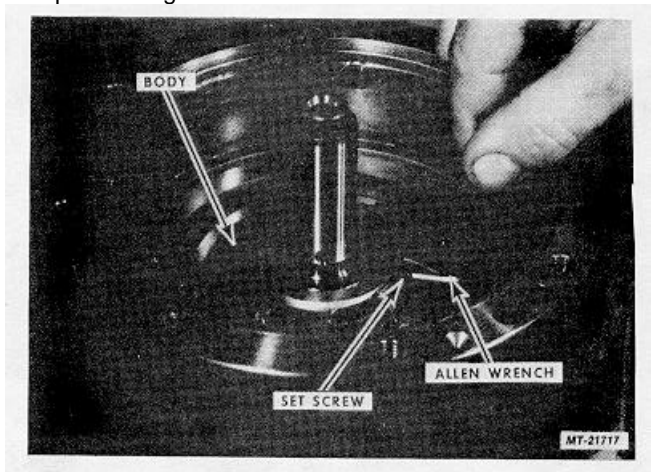

Fig. 25
22. Loosen Set Screw until at least 1/4" of the set screw is exposed. Fig. 25.